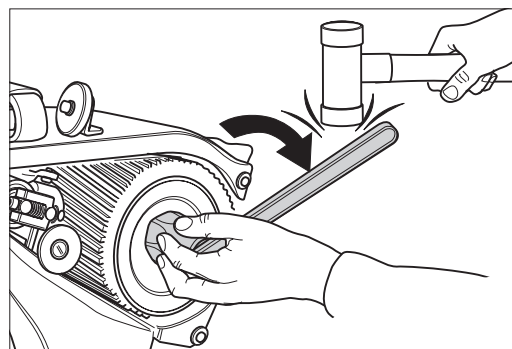

Fig. 39 Release the box nut (**left-hand thread**), if necessary by knocking gently with a soft hammer. **Never use a steel hammer!**
- 4 Open the drum nut using the box wrench. Note that the drum nut has a left-hand thread (Fig. 39). If necessary, take a soft hammer to help you loosen the nut. **Never use a steel hammer!**